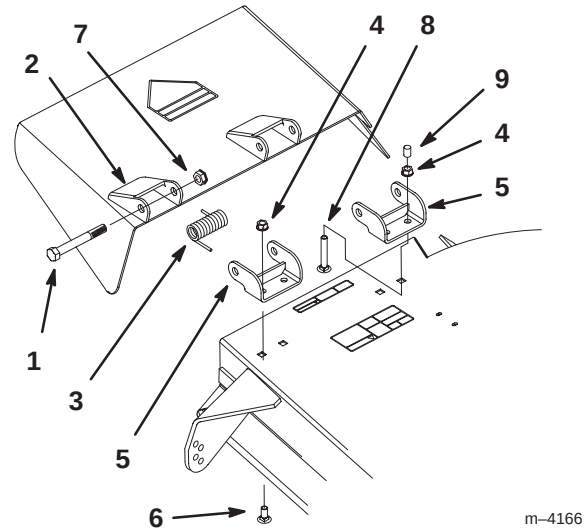

Figure 54
1. Remove the locknuts, bolts and springs holding the deflector mounts to the pivot brackets (Fig. 54).
2. If the pivot brackets need to be replaced, remove the carriage bolts, cone locknuts and cap holding the old brackets to the top of the discharge opening, then install the replacement pivot brackets. Make sure the carriage bolt heads are on the inside of the cutting unit (Fig. 54).
3. Install the deflector mounts onto the pivot brackets with the bolts, springs and locknuts. Make sure the straight ends of the springs are positioned between the deflector mounts and the grass deflector (Fig. 54).
4. Tighten the locknuts until they contact the pivot brackets and install cap (Fig. 54).